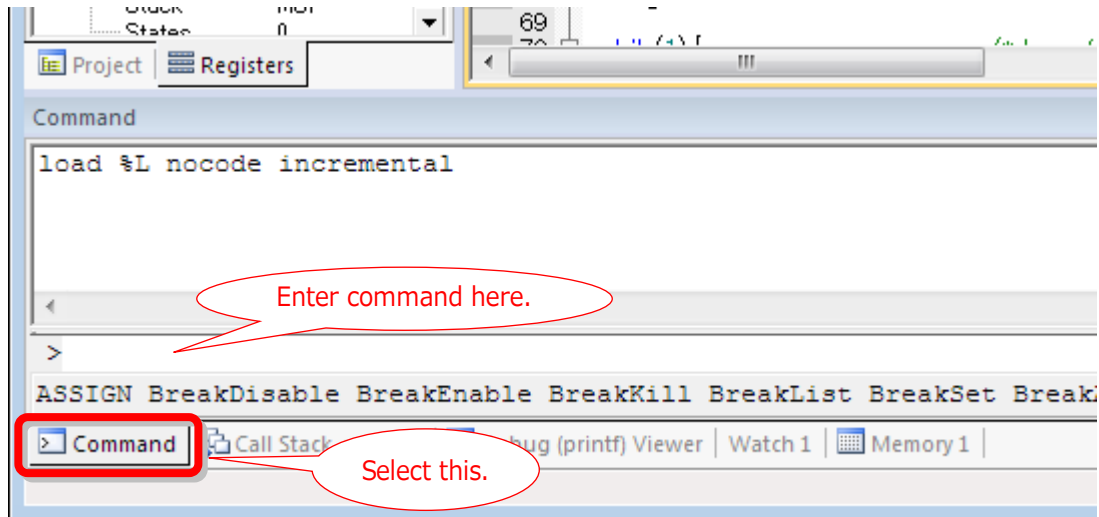

Figure 14
- 6) After the debugging session is started, select the "Command" tab as shown in Figure 14 and enter the following command to read the symbol information.